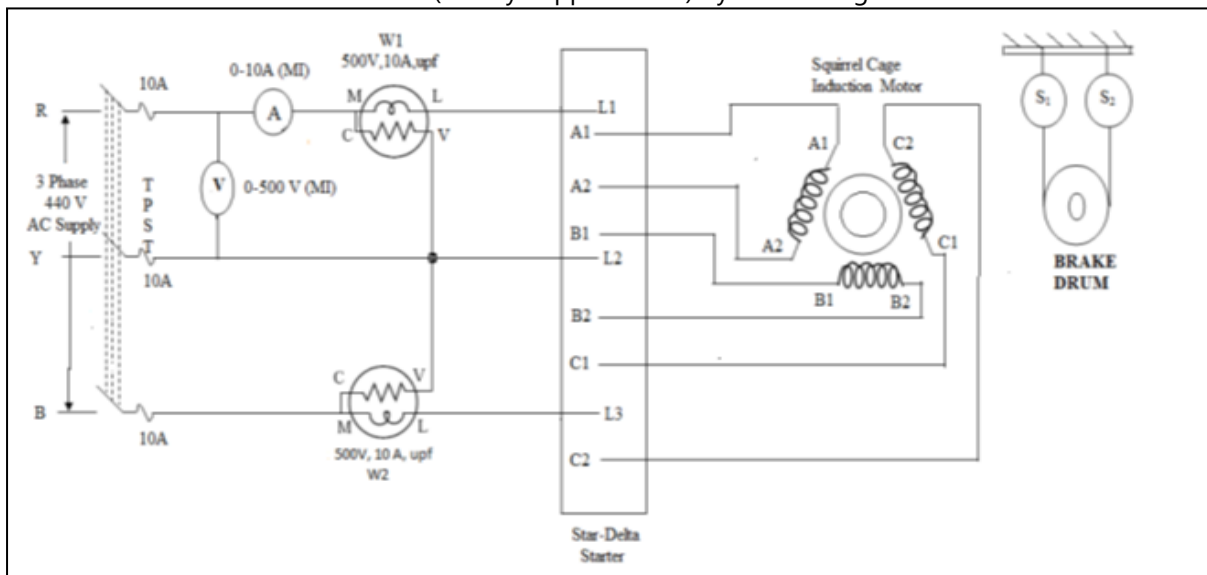

Figure 7 - BRAKE TEST ON THREE PHASE SQUIRREL CAGE INDUCTION MOTOR
1. Calculate the voltage, current and power values at no-load condition from Figure 7